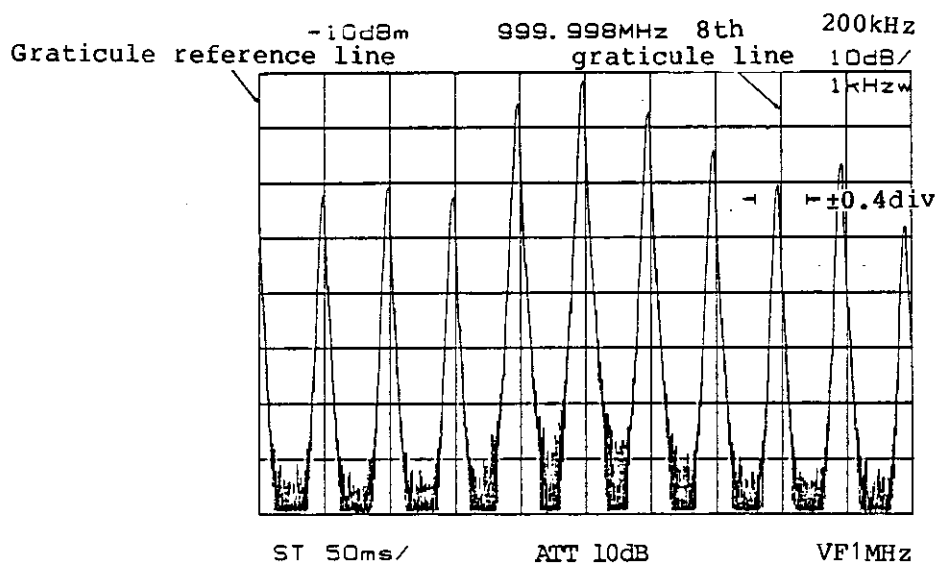

Figure 11-4 Frequency Span 200 kHz Test
- ⑭ Set the output frequency of the function generator to 20 kHz. Turn the TUNING dial to bring the reference spectrum to the leftmost graticule on the display screen. Check that the eighth signal from the reference spectrum is positioned on the eighth graticule from the leftmost graticule on the display screen (or within  $\pm 0.4$  division of the eighth graticule). (See Figure 11-4.)